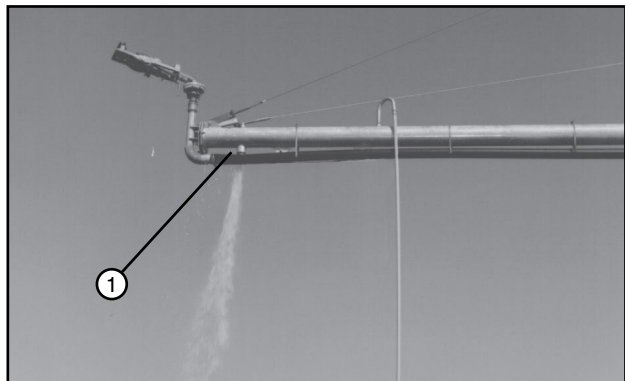

Figure 94-3 1. Overhang Drain
5. Remove plugs from the overhang drains. Clean sand and foreign particles from these drains. Turn the rubber drain seal over when reinstalling. See figure 94-3.